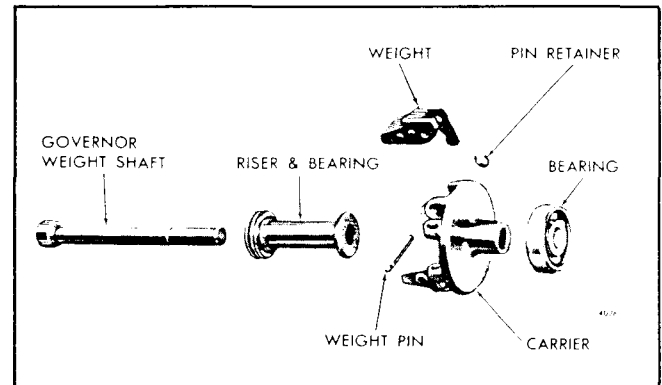

Fig. 10 - Governor Weight Details and Relative Location of Parts
1. Remove the retaining rings from the governor weight pins (Fig. 10). Then drive the pins out of the carrier and the weights. Remove the governor weights.